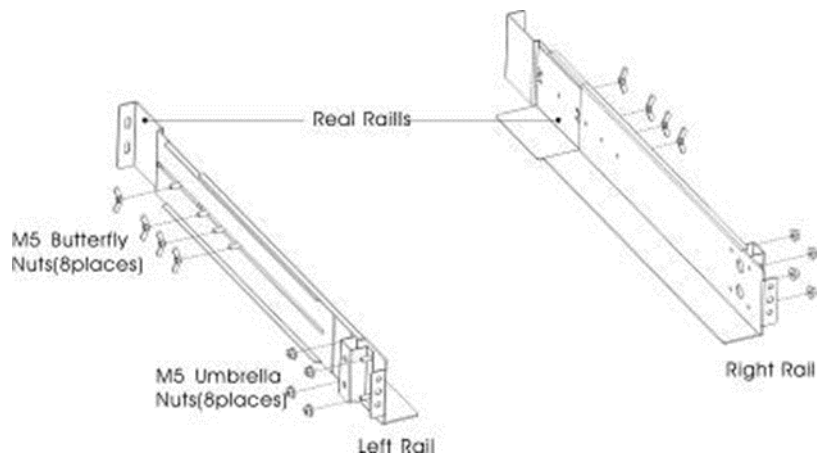

Figure 1: Securing the rails
- a) Assemble the left and right rails to the rear rails as shown in Figure 1. Do not tighten the screws. Adjust each rail size for the depth of your rack.
- c) Tighten four M5 Umbrella Nuts in the side of rail assembly (see Figure 1).